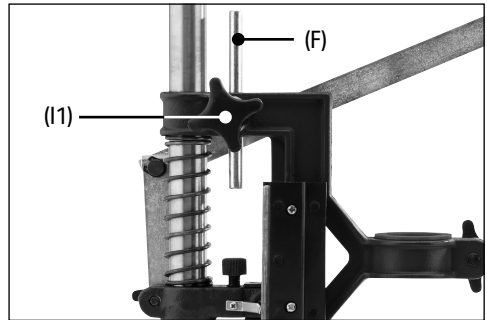

Fig. 4
4. Insert the depth rod (F) and secure in position with knob (I1). (Fig.4)